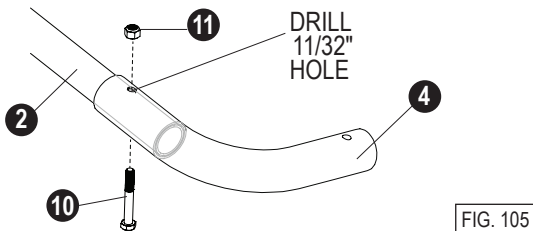

FIG. 105
- Slide the **upper arms (2)** fully into the **corners (4)**. Using a hole in each corner as a guide, match drill a 11/32-inch hole through each upper arm.
- Secure the **upper arms (2)** to the **corners (4)** with **bolts (10)** and **nuts (11)**, as shown in Figure 105.